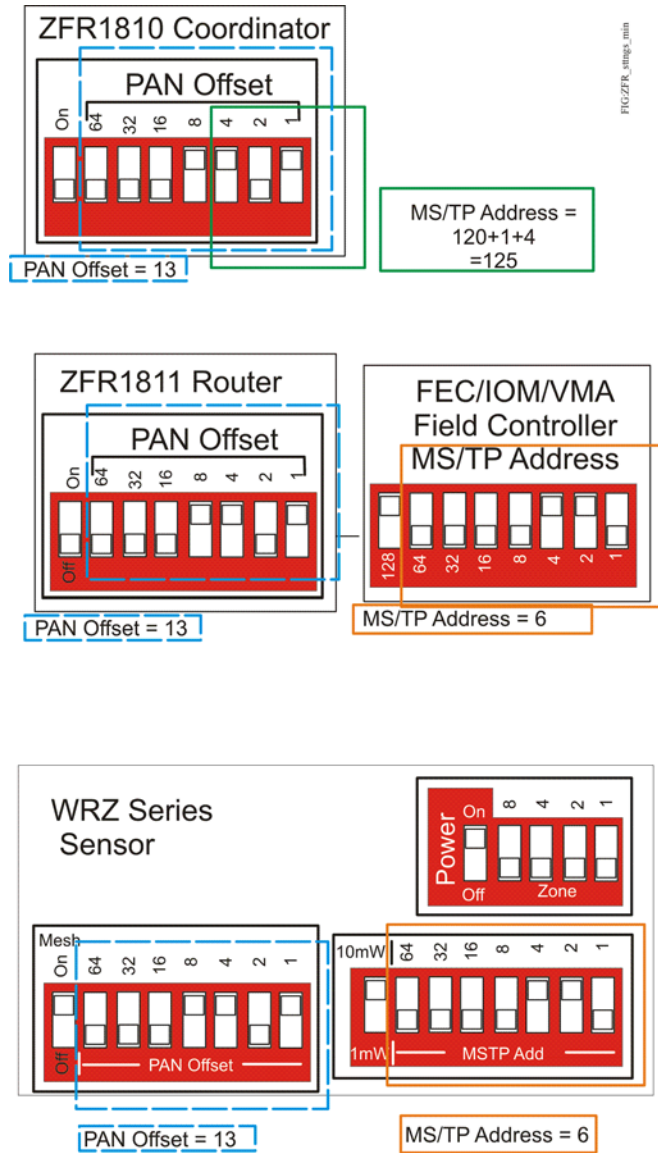

Figure 9: Sample DIP Switch Settings
4. Set the ZFR1810 Coordinator's PAN OFFSET Switch per the job drawings (for example, Floor 1 = 1, Floor 2 = 2, and so forth). The MS/TP address of the ZFR1810 Coordinator is **120 plus the sum of the first three values** of the PAN OFFSET DIP switch, giving an MS/TP address range of 120 to 127. Only the values associated with the first three switch positions (right to left) affect the MS/TP address. In Figure 9, for example, the PAN OFFSET is configured to 13 with values 1, 4, and 8 set to the **ON** position. The sum of these values is 5, and the MS/TP address of the ZFR1810 Coordinator would then be 120 + 5, which equals 125.